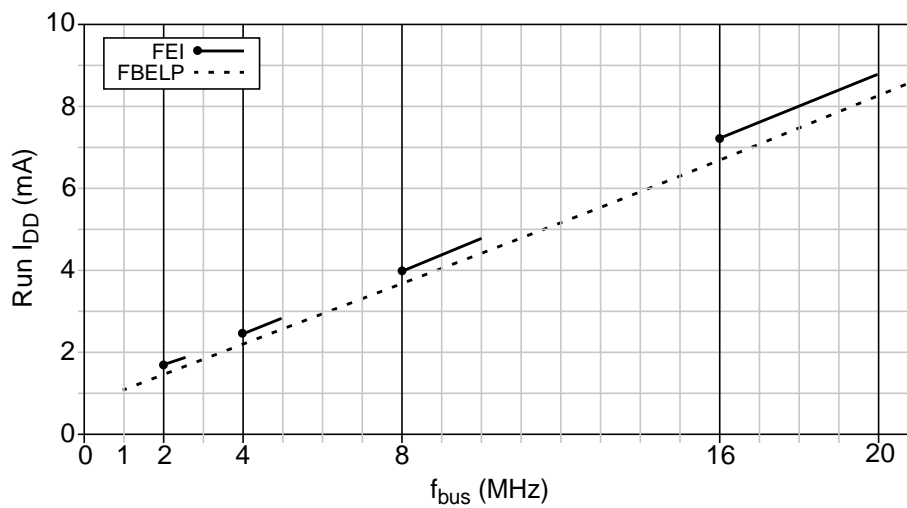
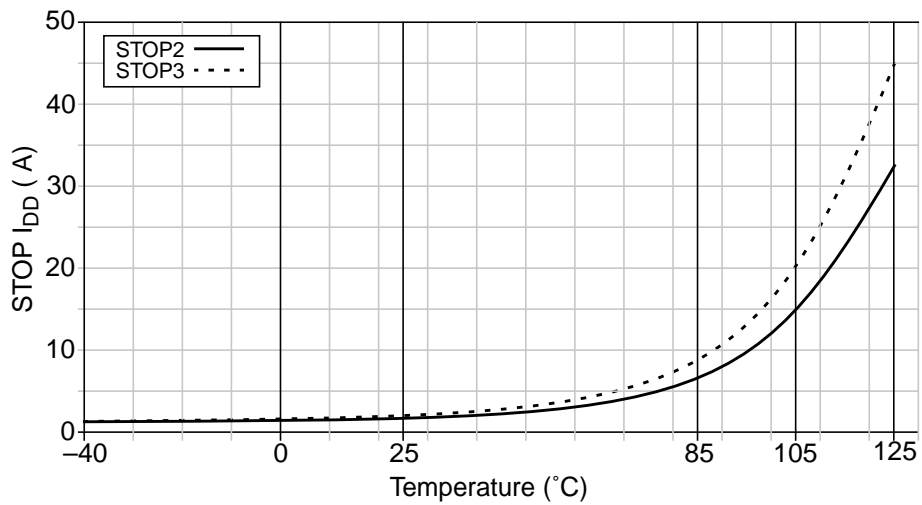

Figure A-5. Typical Run I_{DD} vs. Bus Frequency ($V_{DD} = 5V$)
Figure A-7. Typical Stop I_{DD} vs. Temperature (V_{DD} = 5V)
- ¹ Typical values are based on characterization data at 25°C. See Figure A-5 through Figure A-7 for typical curves across voltage/temperature.